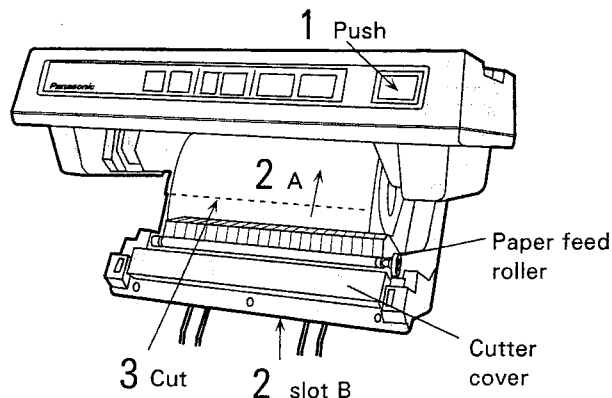

Fig.1
- 3** Cut the paper as shown in Fig. 1.